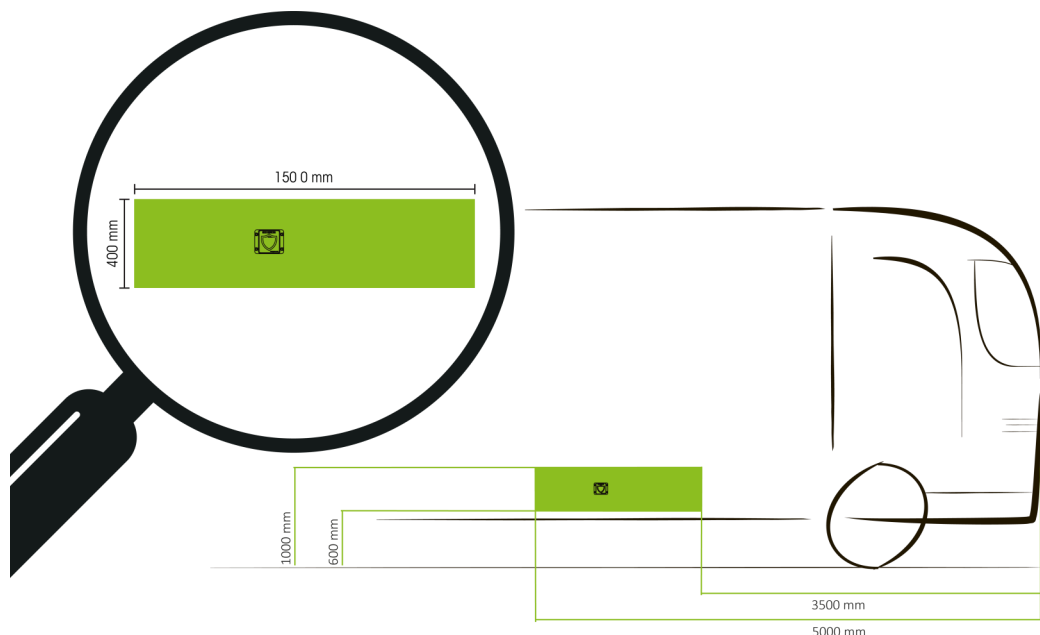

Fig. 8: Sensor position on the vehicle, installation clearances to be observed
A position with as little vibration as possible which provides a certain degree of protection against impact and contamination, while allowing an unobstructed view of the target area of interest must be chosen. For clearance specifications, refer to the description of the keep out & interference zones in Fig. 11 or the recommended sensor position on the vehicle in Fig. 8.
1. Select the appropriate location to fit the sensor (see Fig. 8).